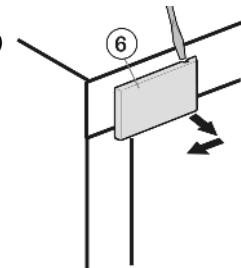

Fig. 13
- Loosen cover that is on the handle side Fig. 13 (6) using a screwdriver and remove by pulling outwards.